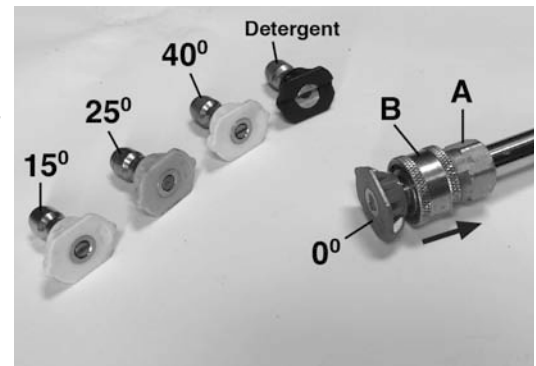

Figure 9
This pressure washer comes with a stainless steel wand, its tip has a quick connect coupler (A) Fig.9 to fit different nozzles. The spray pattern is adjusted by installing the appropriate spray pattern nozzle to the quick connect coupler. Five nozzles are included, 0°, 15°, 25°, 40° and a detergent nozzle. To install a nozzle to the quick connect coupler, pull the coupler ring (B) backwards and insert the desired nozzle (C), release the coupler ring to lock it in place.
- 2) When using a detergent, the stainless steel wand must be fitted with the detergent nozzle (black). This can be done by pulling the coupler ring (B) Fig.9 backwards and inserting the detergent nozzle, release the coupler ring to lock it in place.